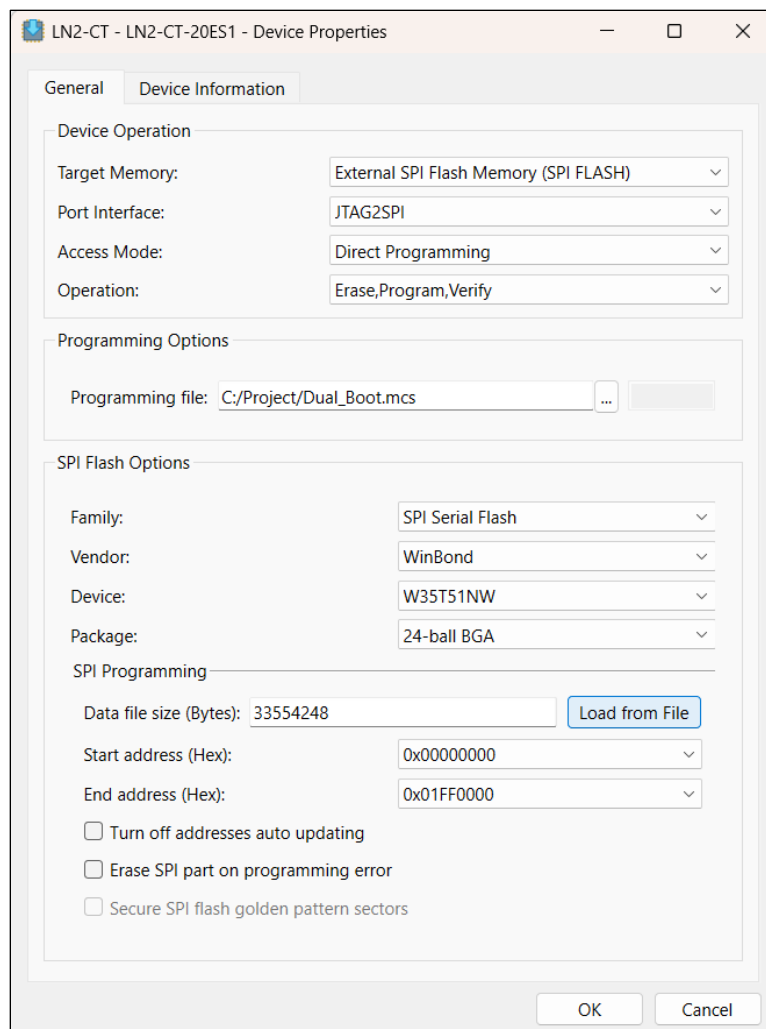

Figure 8.3. Radiant Programmer – Device Properties
6. Set the **Device Properties** fields to the following (Figure 8.3):